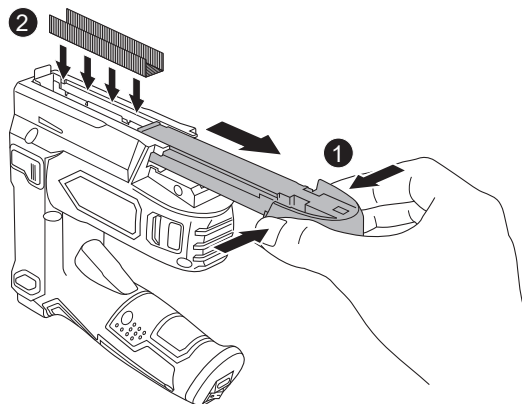

Figure 1
1. LOADING STAPLES OR NAILS (SEE FIG. 1, 2)
- 3) With the safety tab pointing away from you, press together the latches at the end of the loading bay cover to unlock it, and then slide the loading bay cover open all the way (see step 1 in Fig. 1).
- 4) **To load staples:** Place a strip of staples into the loading bay with the pointed tips of the staples facing outside of the product (see step 2 in Fig. 1).